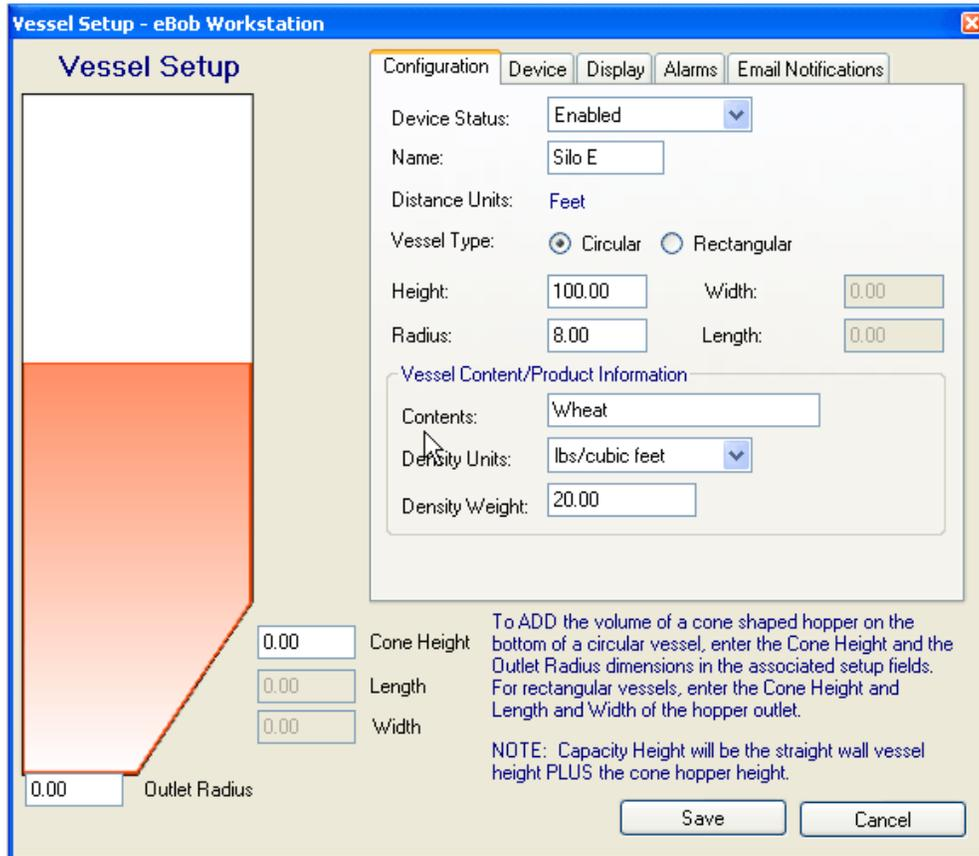

Figure 14
**Vessel Setup** The Vessel Setup screen (Figure 14) is the most important interface in the eBob V5 Workstation software. This interface configures and defines all of the parameters about the individual vessels in the SmartBob system and is critical for volume and weight calculation accuracy.